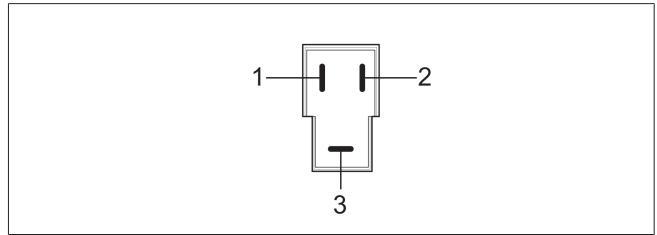

Fig. 6 Electrical connections
- ▶ Make the electrical connections according Fig. 6. See chapter 9, "Technical data" on page 7 for power and fuse requirements.